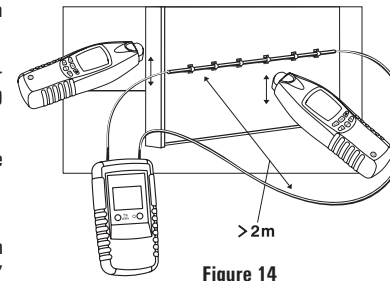

Figure 14
- Connect the transmitter in compliance with the figure 14.